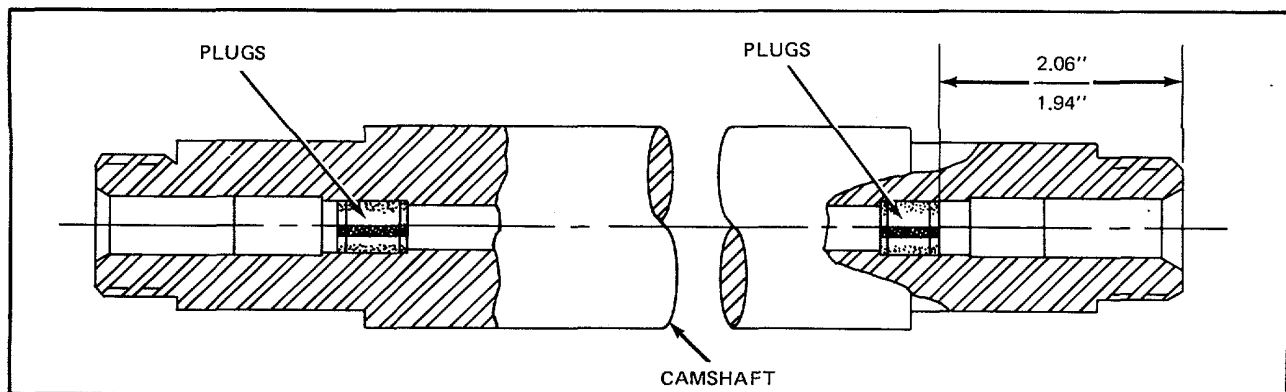

Figure 11. Camshaft Plug Installation
1. Install new end plugs in the camshaft. Press the plugs in to a depth of 1.940 to 2.060 inches (Fig. 11).